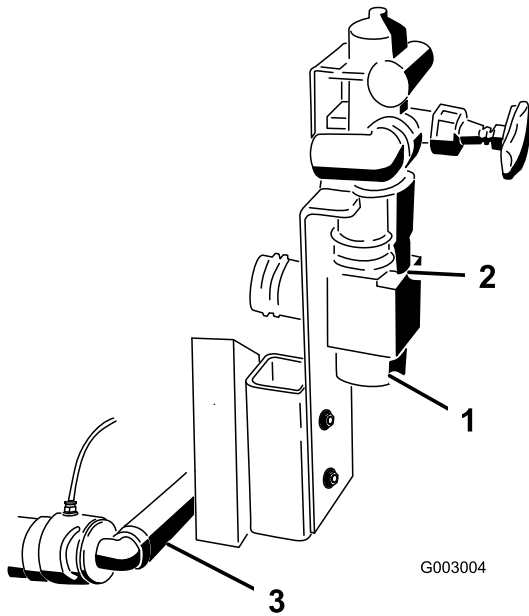

Figure 13
1. Look in the opening under the control valve and ensure that the opening in the white ball valve is open toward the bottom (Figure 13).
5. Install the short hose assembly to the bottom of the control valve and to the boom supply valves, securing it with one previously used retainer and one new retainer (Figure 13).
- 1. Wrap Teflon tape counterclockwise around the threads of the gauge and install the reducer fitting onto the gauge (Figure 13).